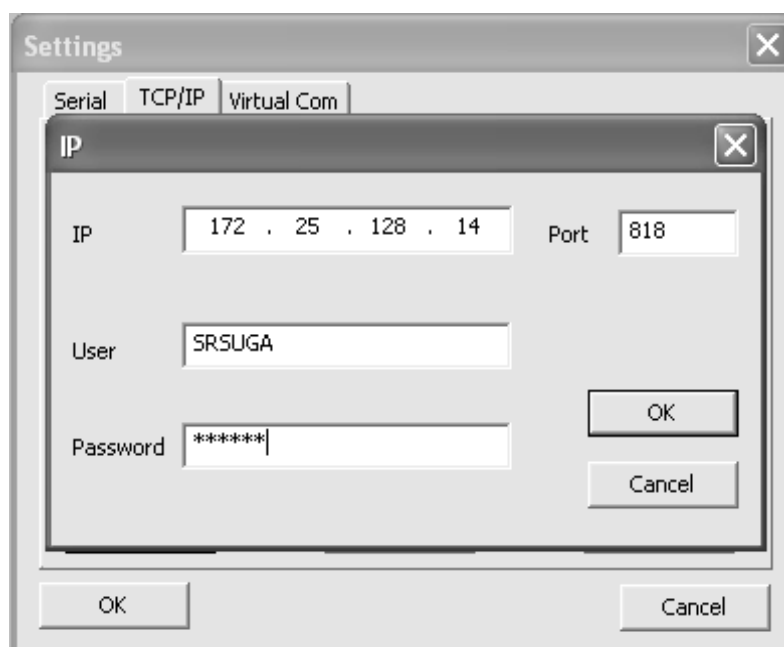

Fig. 2-30. Screenshot of Ethernet data input dialog in RGA.exe
- Click 'Add' button then new data input dialog box will appear (Fig. 2-30).